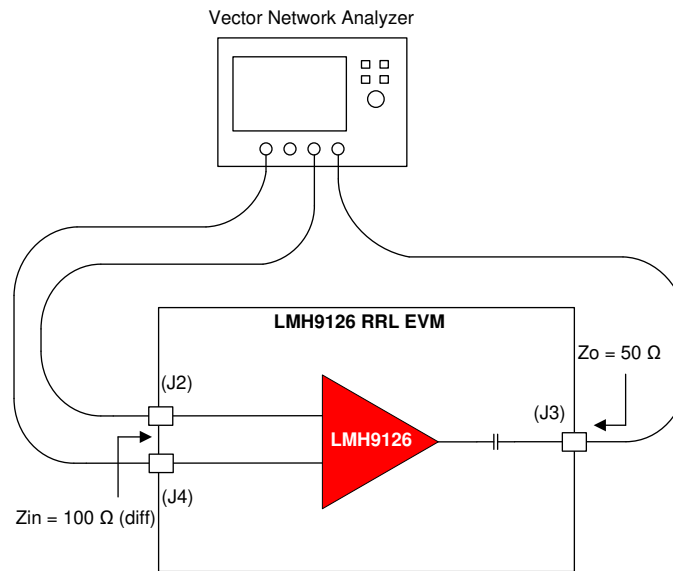

Figure 9. S-Parameter Test Setup
1. S-parameter measurement is typically done using a Vector Network Analyzer (VNA), as Figure 9 shows. For measuring the LMH9126 EVM, a 4-port VNA is recommended which can generate and receive truly differential signals at the input and output ports.